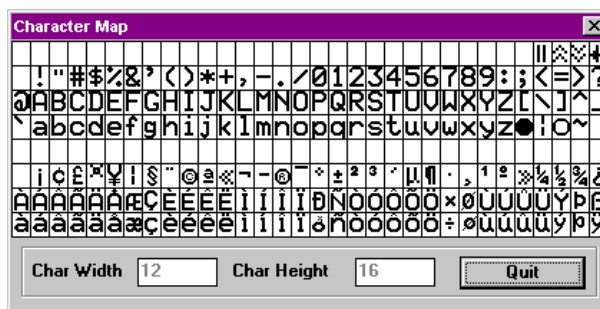

Figure 10.2 – Character Map
2. Press <Ctrl> <Enter> or by clicking right mouse button. Click on the character in the Character Map (see Figure 10.2) to be inserted.